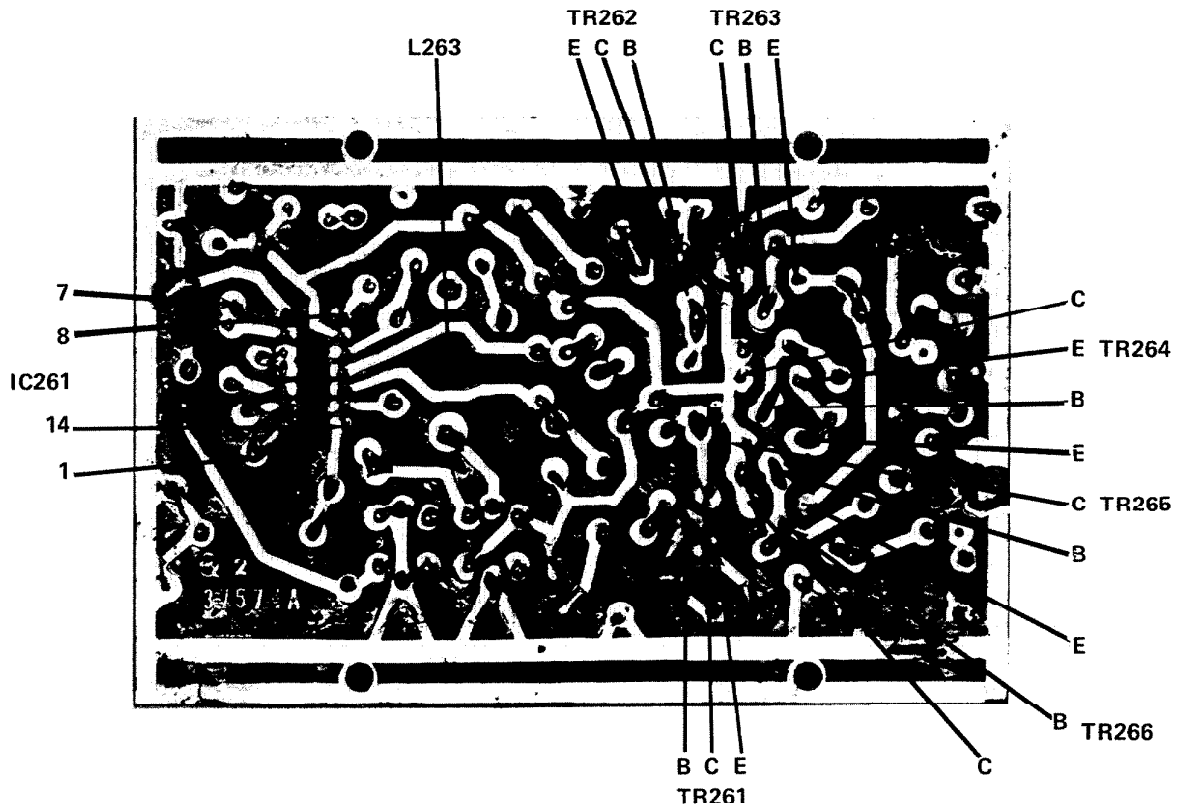

Fig. 1.14 MULTIPLEX & SWITCHING PC ASSEMBLY
1. The MPLX & SWITCHING circuit is powered by the regulated -12 Vdc fed through RED wire to 180 ohm Resistor R285. (Fig. 1.14)
10. When point "A" (see Schematic Diagram and Fig. 1.14 and 1.15) is at 6 Vdc, the base bias on TR263 and TR264 will be approximately 1.8 Vdc. This will turn the transistors on as class A emitter follower amplifiers.